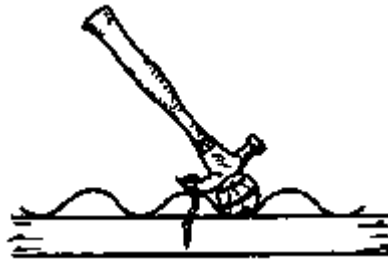

Fig. 4
- If a nail begins to bend and should be pulled out, use a round piece of timber or metal as shown in Fig. 4.